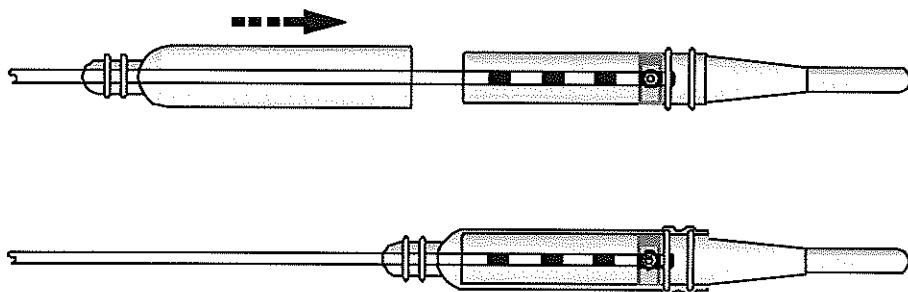

Figure 29: Slide connector boot over lead cap.
6. Slide the connector boot over the lead cap (Figure 29).